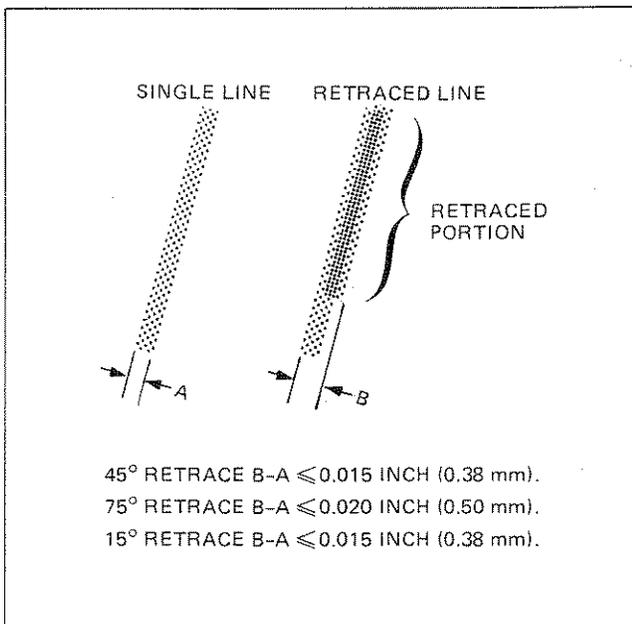

Figure 4-8. Retrace Test Plot
i. The width of the retraced line shall be no greater than 0.015 in. (0.38 mm), plus the width of the single line. (See Figure 4-8.)
- If the width of the retraced line is more than .020 in. (0.50 mm) wider than the single line (see Figure 4-8) check mechanical freedom (paragraph 8-45) and refer to X-gain adjustment (paragraph 5-20).
- If the width of the retraced line is more than 0.015 in. (0.38 mm) wider than the single line (see Figure 4-8) check mechanical freedom (paragraph 8-45) and Y-gain adjustment (refer to paragraph 5-22).